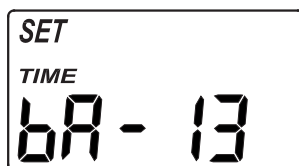

FIG. 31
2. Press the SELECT button four times, so that "SET TIME bA" appears in the display (See Figure 31).